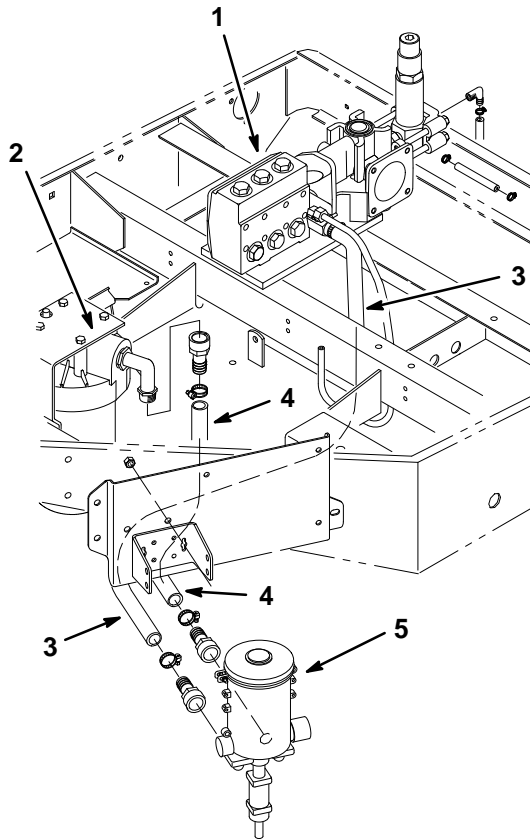

Figure 9
17. Install new blue 3/4" (19 mm) hose from the filter to the inlet side of the liquid injector. Cut the hose to length as required (Fig. 9).
- 18.** Install new blue 3/4" (19 mm) hose from the liquid injector outlet to the inlet side of the water pump. Cut the hose to length as required (Fig. 9).